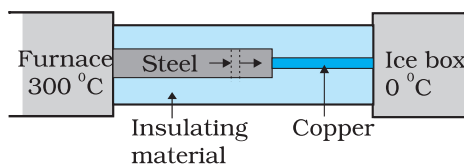

Fig. 11.15
► **Example 11.6** What is the temperature of the steel-copper junction in the steady state of the system shown in Fig. 11.15. Length of the steel rod = 15.0 cm, length of the copper rod = 10.0 cm, temperature of the furnace = 300 °C, temperature of the other end = 0 °C. The area of cross section of the steel rod is twice that of the copper rod. (Thermal conductivity of steel = $50.2 J s^{-1} m^{-1} K^{-1}$; and of copper = $385 J s^{-1} m^{-1} K^{-1}$).